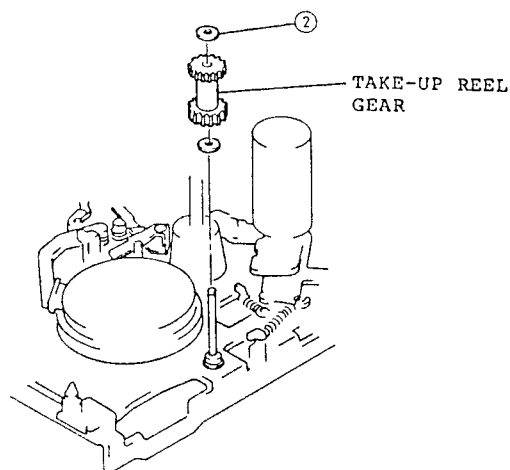

Fig. 2-73
2. Remove one (1) washer holding the take-up reel gear. (See Fig. 2-73)
(See Fig. 2-73)